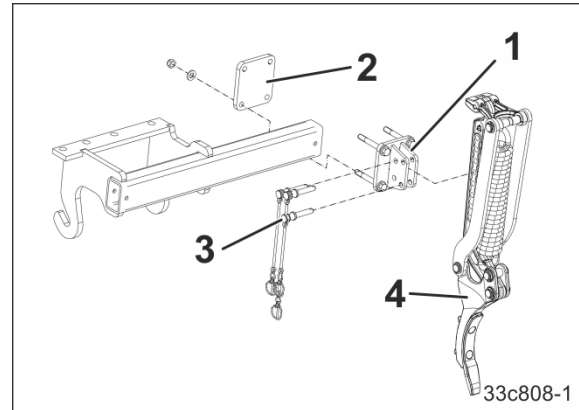

Fig. 78
1. Screw the wheel mark eradicator bracket (Fig. 78/1) onto the mounting frame using the clamping plate (Fig. 78/2).
2. Pin the wheel mark eradicator (Fig. 78/4) right at the top with the positioning pin (Fig. 78/3) and secure with a linch pin.